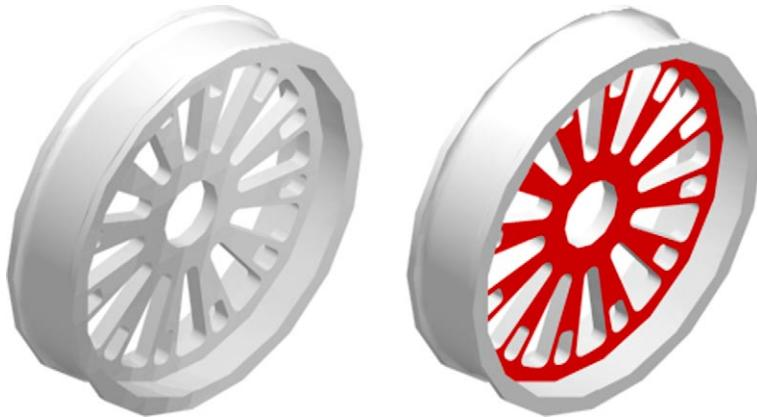

Fig. 18.12 Seventh example – **Color faces** tool
Seventh example – **Color faces tool (Fig. 18.12)**
3. Add lights and a material to the edited 3D model and render (Fig. 18.12).